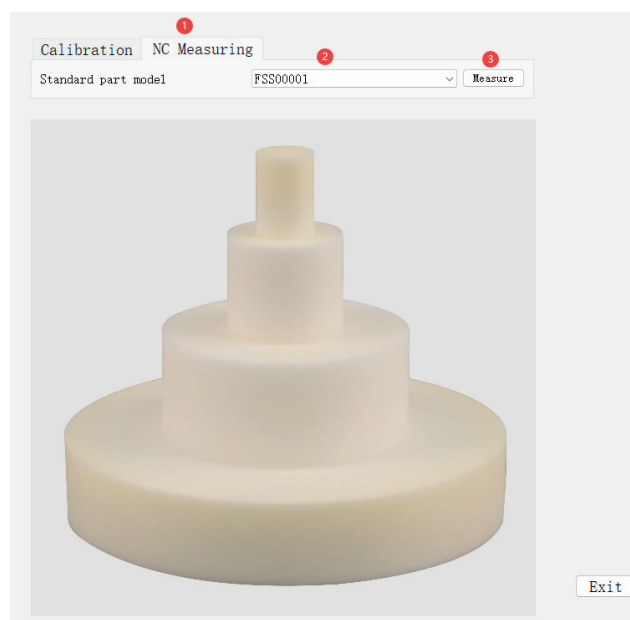
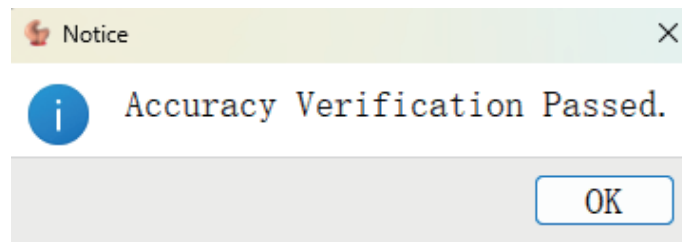
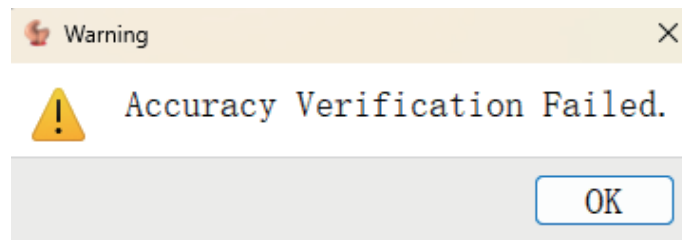
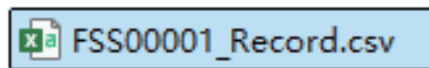

Figure 4-1
Figure 4-2
Figure 4-3
Figure 4-4
(1) Take out the cylinder object, align the locating pin of the cylinder object with the notch of the turntable, suck them together, check whether the placement is horizontal and confirm that they are assembled in place.
(2) Find Calibrate in Menu, click Calibrate, follow the sequence, select the standard part model, and after confirmation, click Measure, as shown in Figure 4-1. The accuracy verification result will pop up in a window, as shown in Figure 4-2 and Figure 4-3. In the C:\Users\Public\Documents\FitShapeScan path, the FSSxxxxx_Record.csv file will be automatically generated, where you can view the specific values of the accuracy verification, as shown in Figure 4-4.